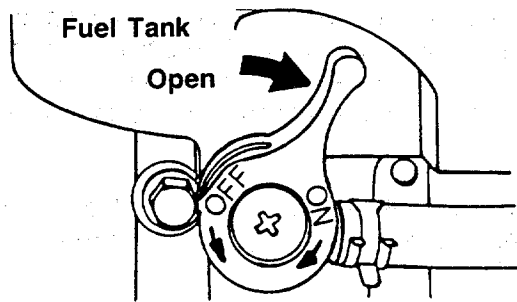

FIGURE 13.
2. Open fuel shut-off valve. See figure 13.